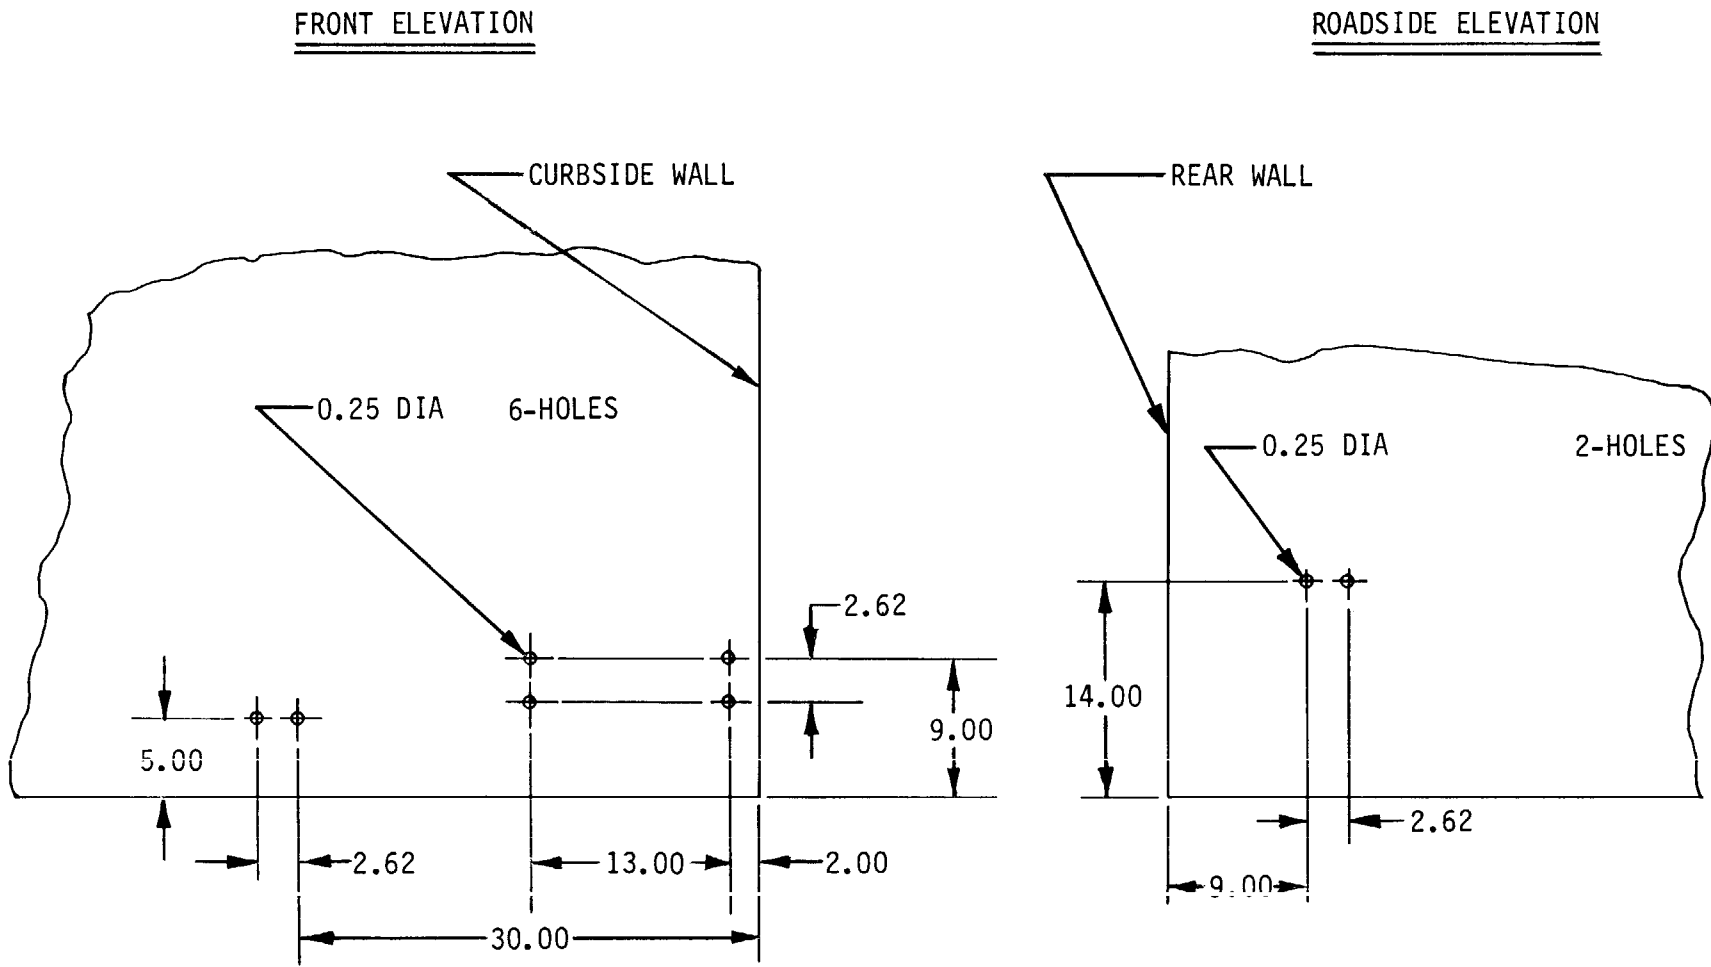

Figure 2. Dimensions for blind rivet nuts and strap loops.
a. Mark and drill eight 0.25-in. diameter holes in walls of semitrailer in accordance with figure 2. Install eight blind rivet nuts S37B80 in holes. Secure four strap loops (MS51939-3) to walls using eight #10XIL countersunk head machine screws (MS35191-276) threaded into blind rivet nuts.